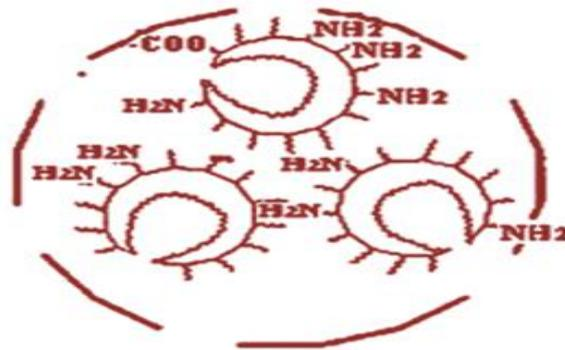

Fig. 8.3: Immobilization of enzyme by microencapsulation
- **Encapsulation:** Enzyme and cells immobilization in semi-permeable membranes (Fig.8.3), which permits the transport of nutrients from medium to the cells and remove the products. The porosity of the membrane is variable according to the size of products, small pores in case of glucose and large pores in case of antibodies. This immobilization technique is preferable for the animal cells or human cells.